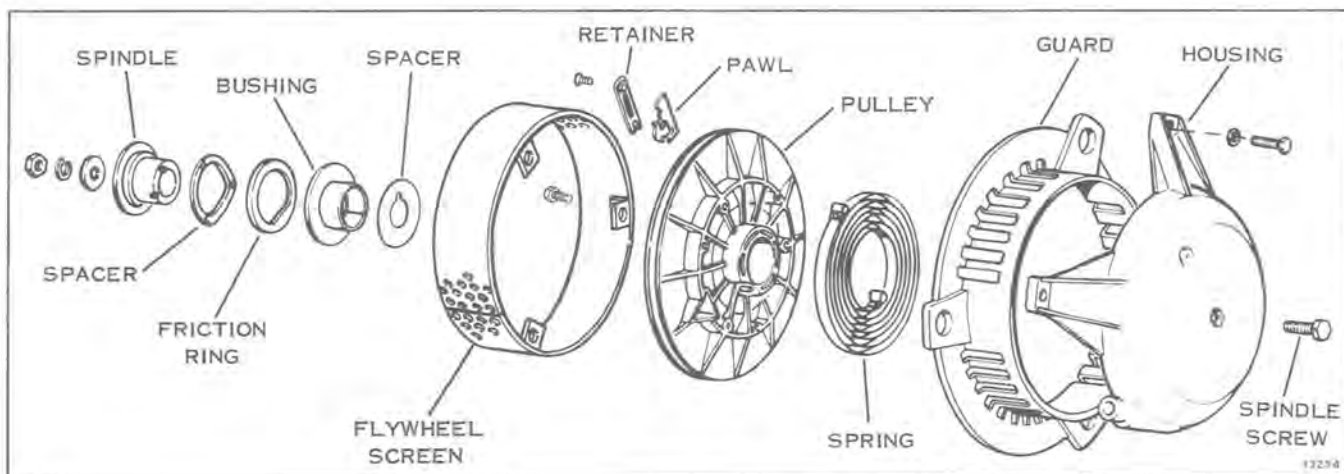

Figure 8-1
- e. Remove spindle screw, and remove all components of starter pulley spindle assembly (see Figure 8-1).